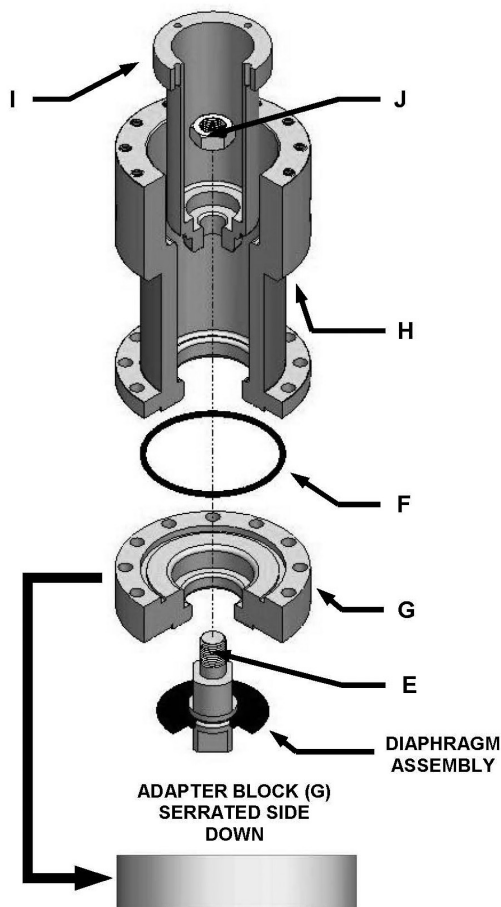

Figure 10: Assembling the diaphragm
Insert – 145 O-ring (F) into the adapter block (G). Place the adapter block (G) between the diaphragm assembly and spring chamber (H) as shown in Figure 10. Slide the inner tube (I) through the spring chamber (H). Attach the thread extension (E) to the inner tube (I) using 1/2-20 SS jam nut (J). Torque the jam nut (J) to 180-220 in.-lbs.